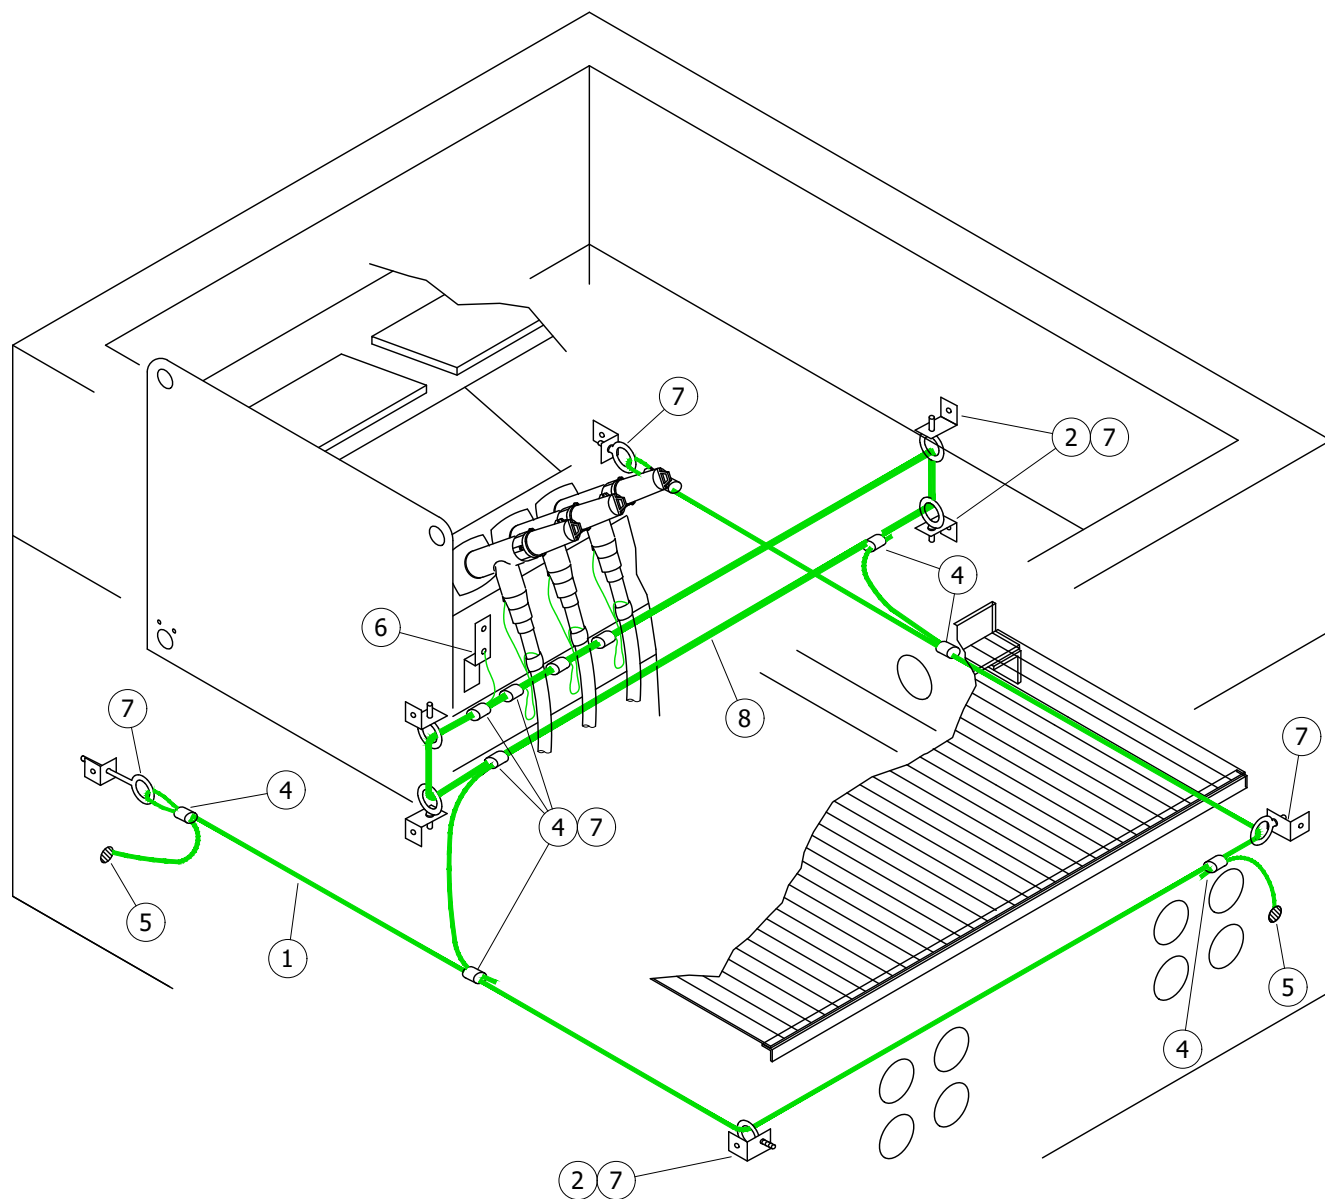

FIGURE 1
- A. INSTALL HANDHOLE GROUND AS SHOWN IN FIGURE 1.